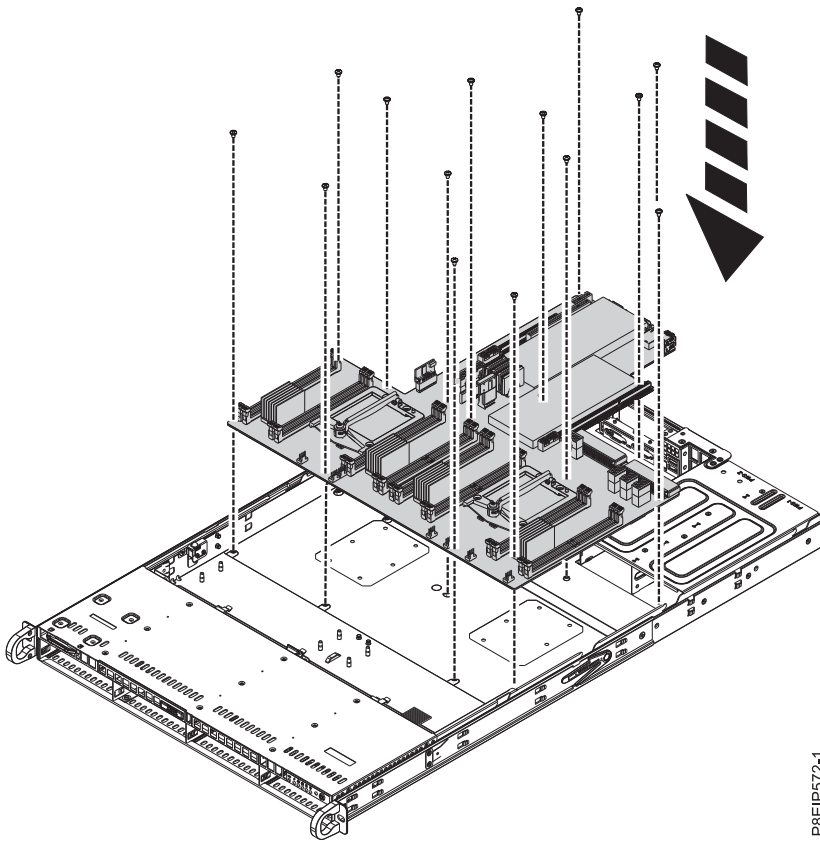

Figure 57. Replacing the system backplane
12. Moving the front cables out of the way, and carefully holding the processor heat sink, lower the system backplane into the chassis, then slide it slightly back. See Figure 57 on page 50.